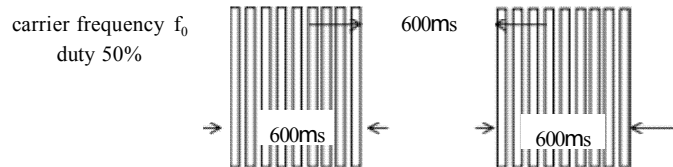

Fig 1. Burst Wave
- 3)Standard transmitter: burst wave indicated in Fig1.of standard transmitter shall be arranged to 50mVp-p under the measuring circuit specified in Fig2.